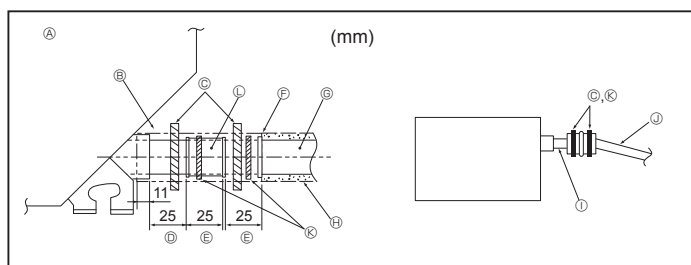

Fig. 3-2
- Connect the drain socket (supplied with the unit) to the drain port. (Fig. 3-2) (Fix the tube using PVC adhesive then secure it with a band.)